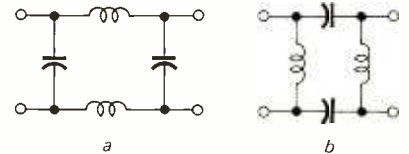

FIG. 7
10. To reduce 27 mHz Citizens band interference in a TV set, which of the networks in Fig. 7 would you place in series with the TV antenna?